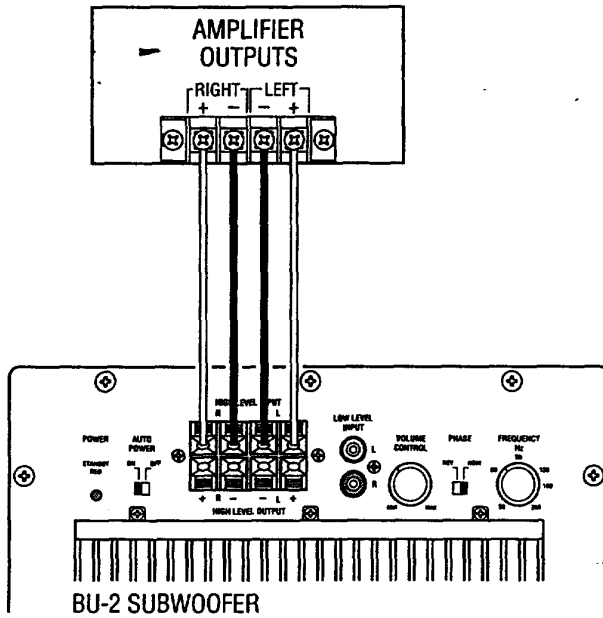

Figure 5
The BU-2 subwoofer may be connected to your system using the HIGH LEVEL INPUTS (4) on the plate located on the rear panel of the subwoofer. Use ordinary lamp cord maintaining proper polarity (+ to + and - to -). Attach the lamp cord to the left and right HIGH LEVEL INPUTS on the subwoofer and the other ends to the proper left and right OUTPUTS on your amplifier or receiver (see Figure 5).